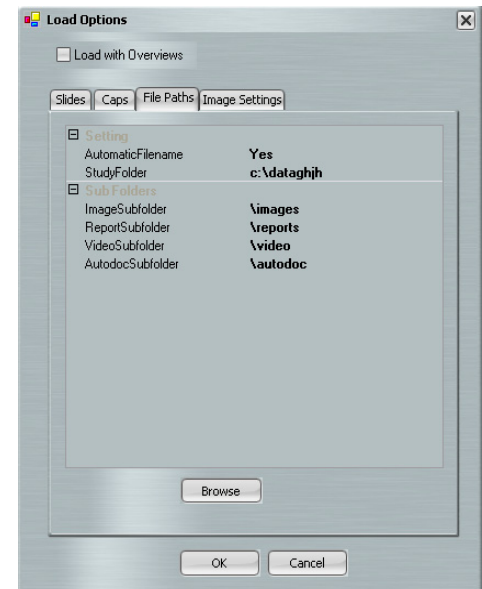

Figure 19 File path options
1. To enter information about where image files should be saved, click the **File Paths** tab (see Figure 19).